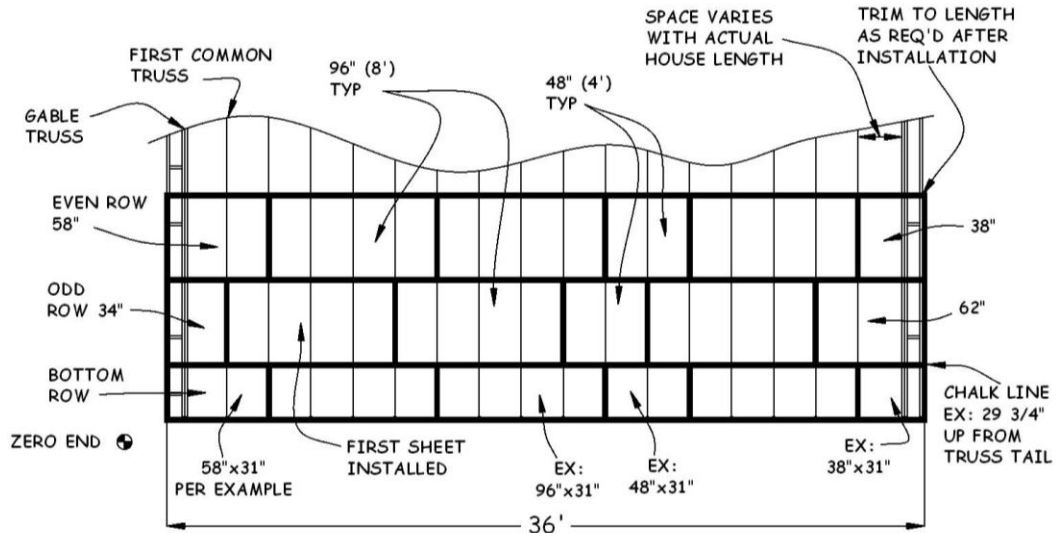
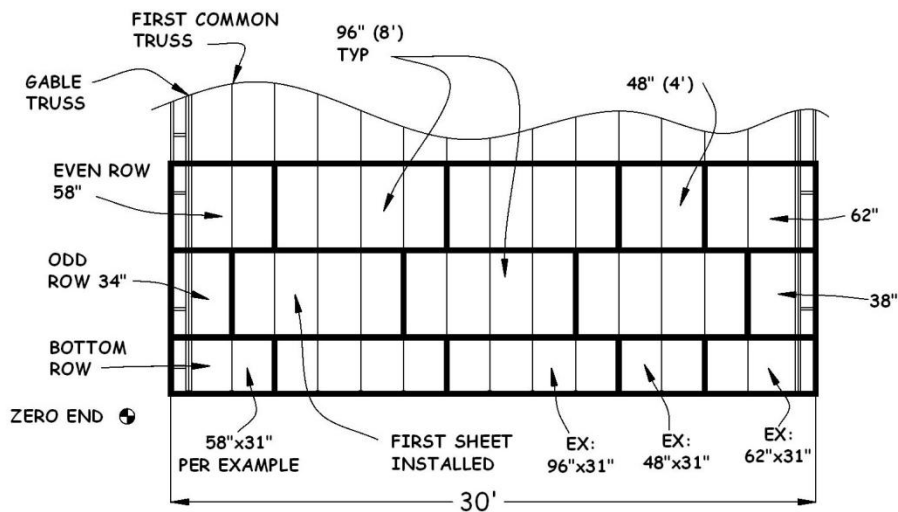

Figure 7-1. OSB Layout for 36' Roof.
Figure 7-2. OSB Layout for 30' Roof.
1. Refer to Figure 7-1 and Figure 7-2, below, which show examples of the roof sheathing layout for a 36’ and 30’ long roof, respectively. Note that each **odd** row has a **34” piece** at the zero end, and each **even** row has a **58” piece** on the zero end. Also, note that the **bottom row** is not full-width. The size of these **bottom row** pieces will be determined in Section 7.4.2.
- Place two 34" and two 58" pieces on each eave side of the house at the zero end, and two each of the 38" and 62" pieces on each eave side of the non-zero end. There are typically 4 rows of sheeting on each side of the house, or 8 rows total. As shown in Figure 7-1, Figure 7-2, and Table 7-1, the 62" and 38" pieces are used on the non-zero end, but not necessarily in the same row as its corresponding cutoff.
5. Depending on the length of the house, a 4' piece may also be needed in the middle of the row to reduce scrap and to maintain the stagger of the joints between sheets. In the 36' example in Figure 7-1, a 4' piece is required in each row. Figure 7-2 shows a **4' piece in even rows only**. Referring to "**Total # of 4s**" in Table 7-1, determine the number of 4' pieces required. Cut full-width sheets in half to obtain the required number, label with the size, and place half of them on each eave side of the house near the middle.